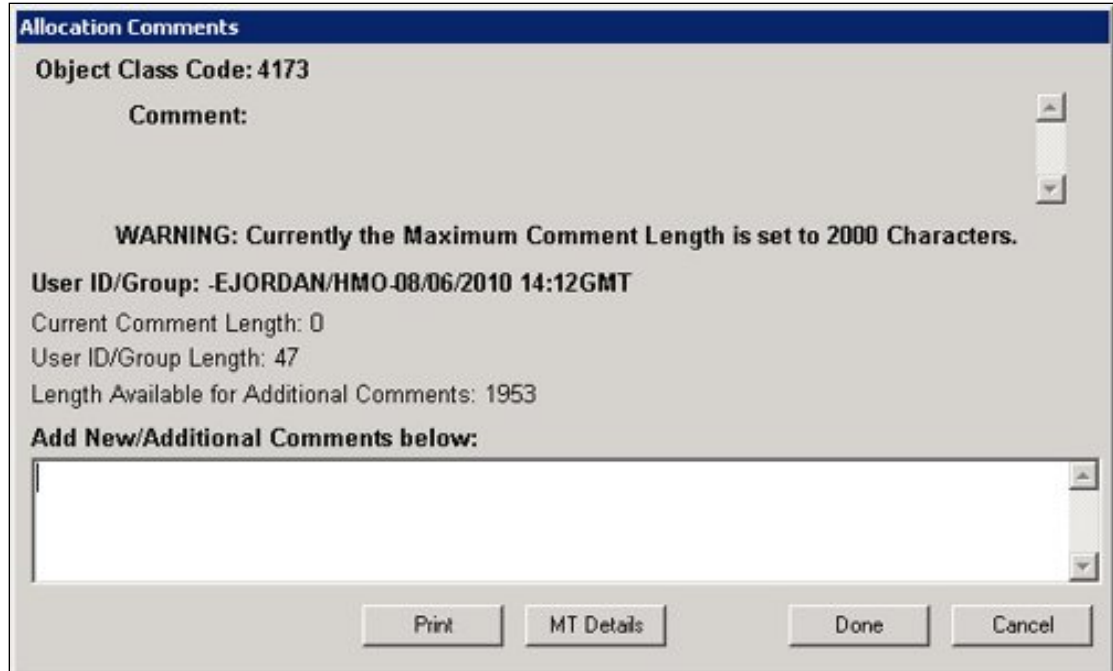

Figure 10-29: Allocation Comments
16. On the far right column of the Object Class 4173 – Hazard Mitigation Grant row, click inside the checkbox. The Allocation Comments window is displayed (Figure 10-29).